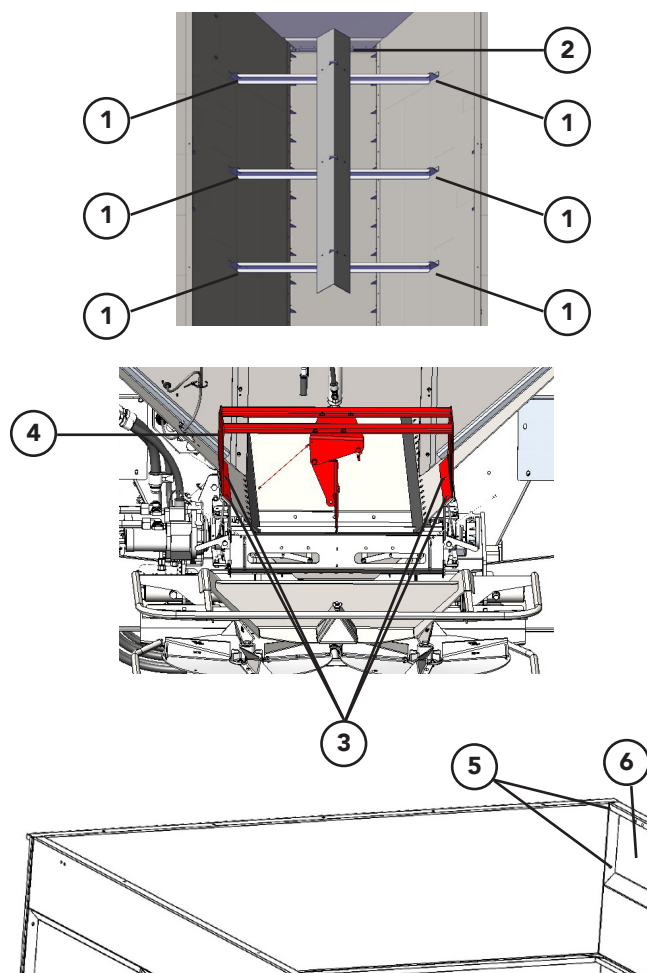

Figure 1
8. Figure 1 - Remove Hardware (1) and Inverted "V" (2).
9. Remove Hardware (3) and Hillside Divider (4).
10. Remove Hardware (5) and Side Boards (6) from the spreader, if so equipped, and set hardware aside. Replace chain shield hardware (3) from Hillside Divider and torque to specification.